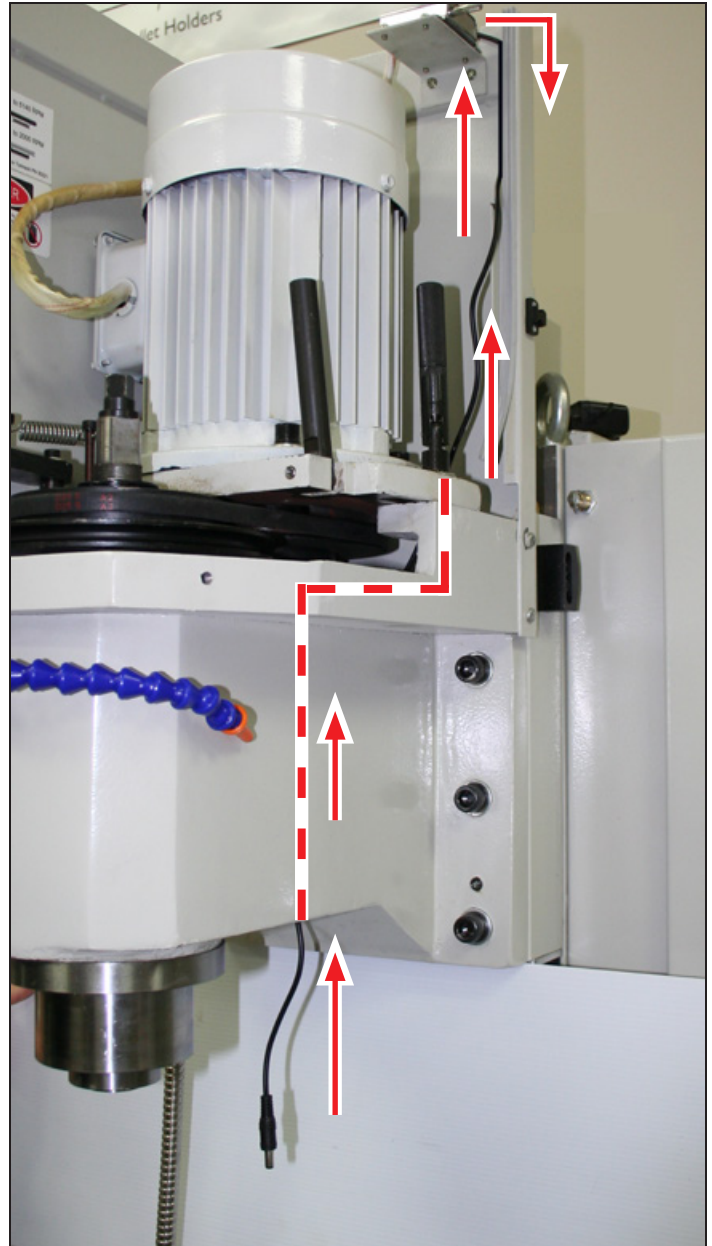

Figure 3
6. Weave opposite end of Power Extension Cord through spindle head, over and down back of mill (see **Figure 3**).